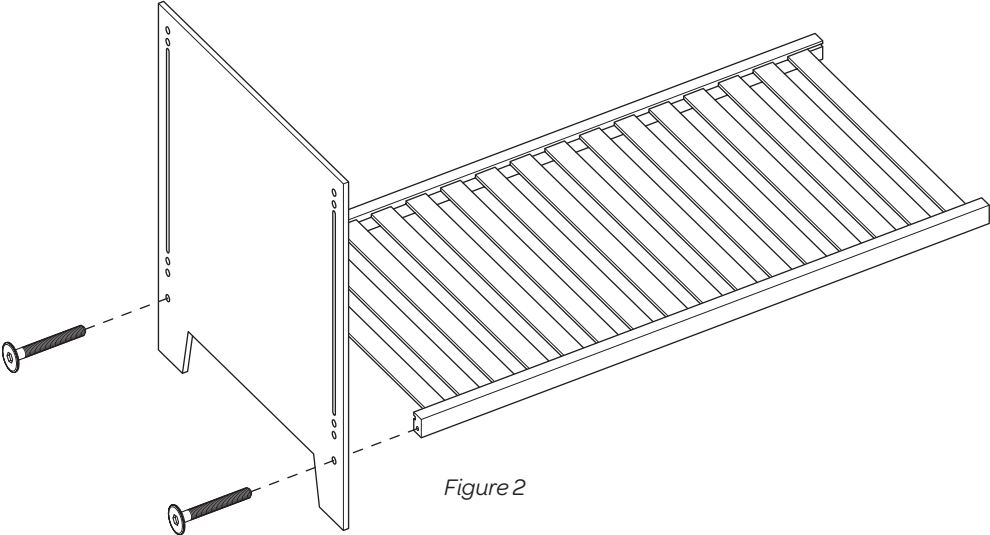

Figure 2
**Step 3** Insert bolts in the lowest bolt holes of the bed end (Fig.2) and align with the holes in the ends of the carrier rails on the bed base. Ensure the face which has the coving in the mesh slot is facing outwards.